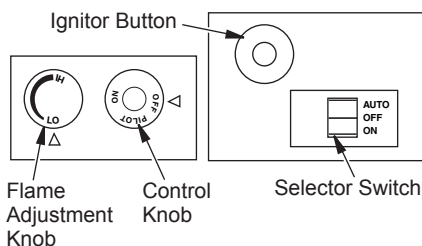

Figure 31 - Control Knob and Ignitor Button Location (Shown as Supplied, No Control Options)
5. Wait five (5) minutes to clear out any gas. Then smell for gas, including near the floor. If you smell gas, **STOP!** Follow "B" in the safety information in column 1. If you don't smell gas, go to the next step.
6. Press in and turn control knob counter-clockwise  to the PILOT position. Press in control knob for five (5) seconds (see Figure 31).